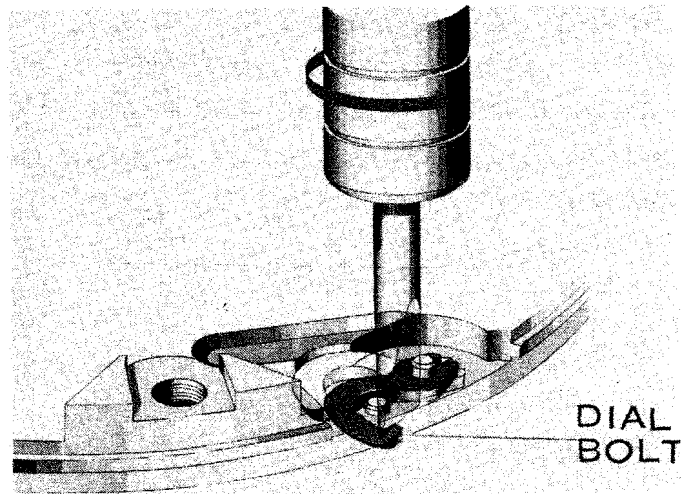

FIGURE 10
To remove the dial, release the two dial bolts with a screwdriver, as shown in Figure 10. Remove the dial and the hour wheel (255).